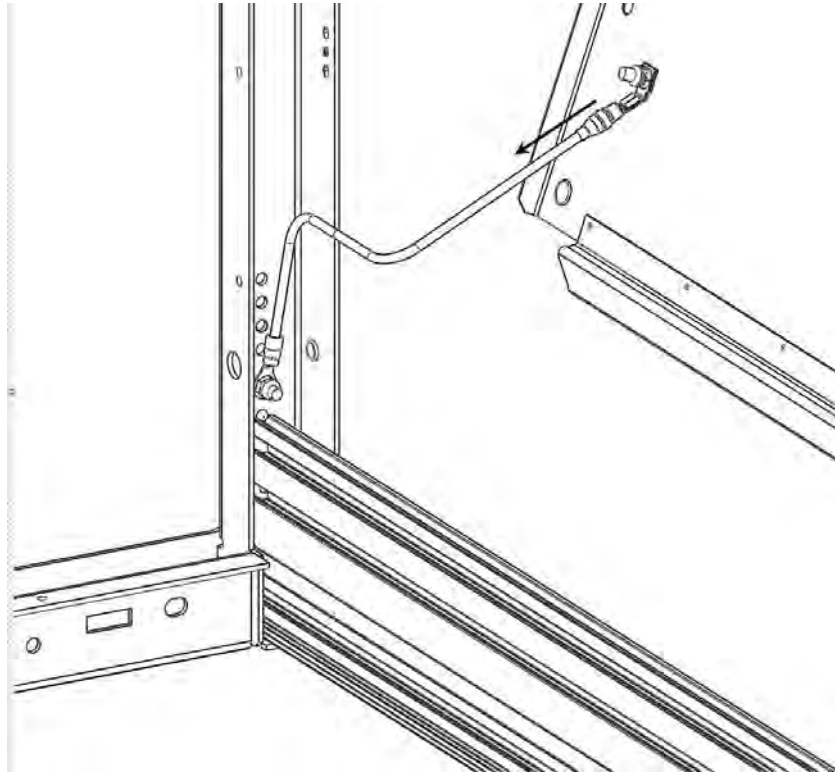

Fig. 2.6.1 Bonding jumper wire
1. Be sure to unplug the quick-connect end of the bonding jumper wire from the side panel before removing the side panel (see Fig 2.6.1).
3. Be sure to electrically bond the side panel to the cabinet frame by plugging the quick-connect end of the bonding jumper wire onto the quick-connect tab on the side panel (see Fig 2.6.1).